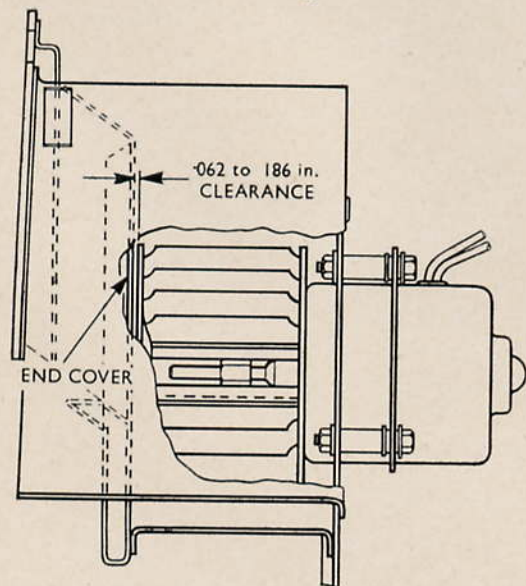

Fig. X.3. The runner (fan) must be positioned to give the clearance shown before tightening the nut securing it to the motor spindle
2. After installing the end cover, position the runner in relation to the cover (Fig. X.3) and tighten the clamp nut.